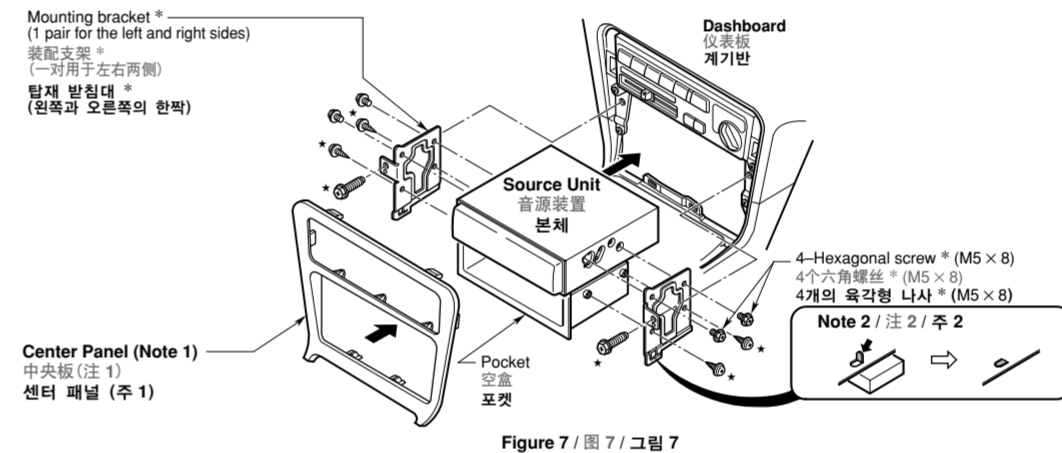

Figure 7 / 图 7 / 그림 7
This unit is designed for fixed installation in the dashboard. If the vehicle is equipped with a factory-installed radio, install the source unit with the parts and screws marked (★) (Figure 7). If the vehicle is not equipped with a factory-installed radio, obtain an installation kit to install the source unit in the following procedure.
本机用于固定在仪表板上。如果汽车装备有出厂时安装好的收音机, 请用带星号(★)的零件和螺丝安装音源装置(图7)。如果汽车不装备出厂时安装好的收音机, 请用安装工具按照以下步骤安装音源装置。
- Secure the mounting brackets to the chassis as shown in Figure 7. Holes are pre-tapped for TOYOTA and NISSAN vehicles; modification, such as drilling new holes, of the mounting brackets may be required for other models.
- 如图 7 所示, 将装配支架固定到底盘. 丰田和日产汽车具有现成的安装用孔; 其他车型可能需要改造装配支架, 如钻出新孔等。